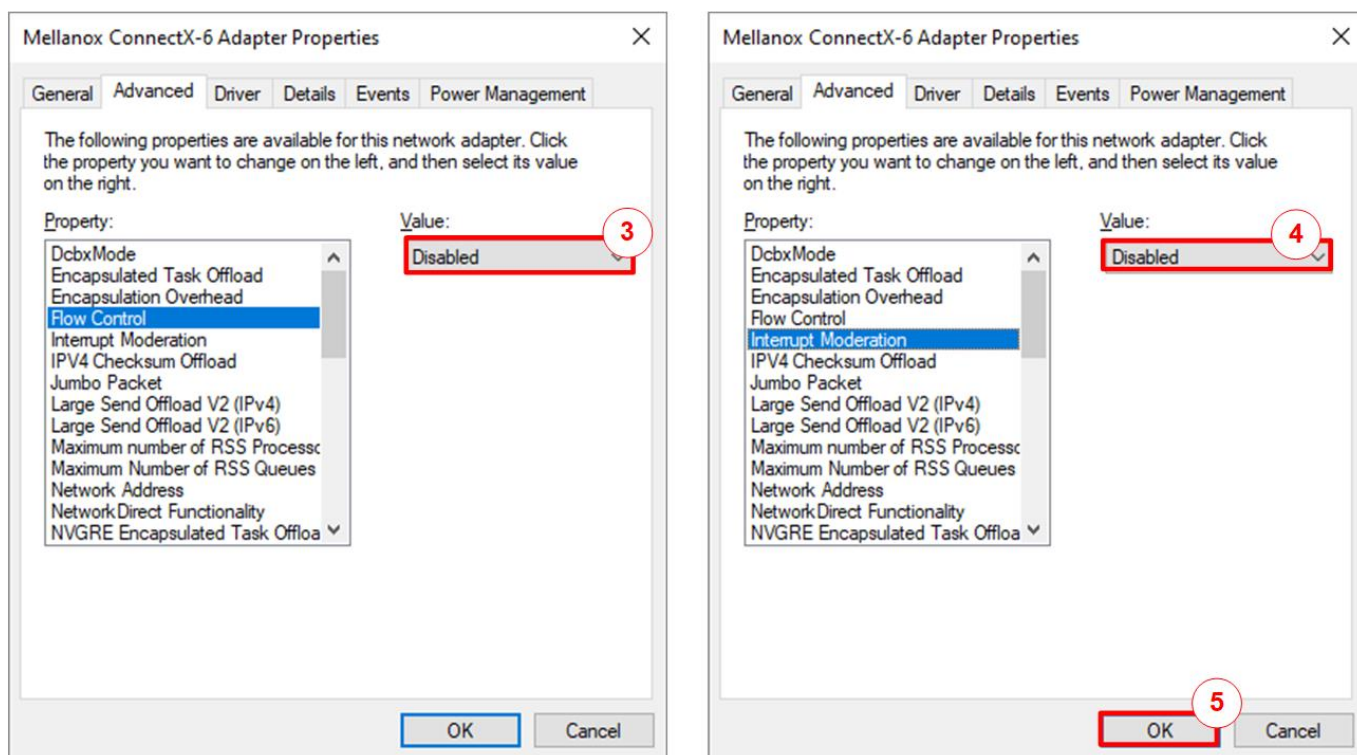

Figure 2-3 Set Flow Control and Interrupt Moderation
- 3) Select “Flow Control” and set value to “Disabled”, as shown in the left window of Figure 2-3.
- 4) Select “Interrupt Moderation” and set value to “Disabled”, as shown in the right window of Figure 2-3.